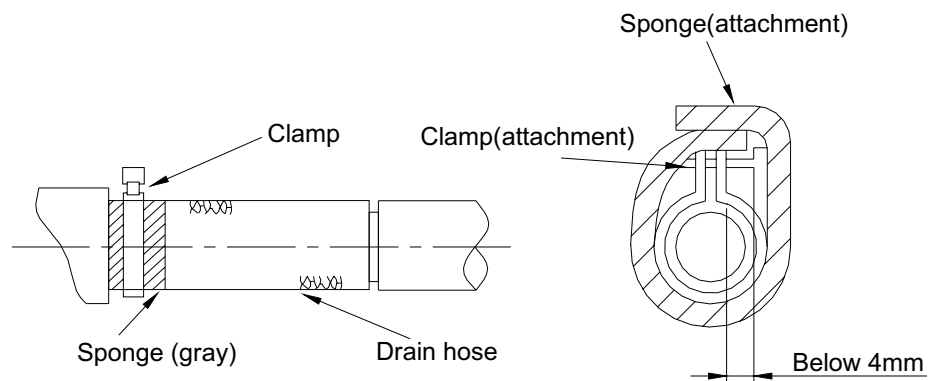

Fig.1.1.9
- ◆ Use the general-purpose hard PVC pipes which are purchased locally as the drainage pipeline. When carrying out connection, place the end of the PVC pipeline into the drainage hole. Use flexible drainage tube and tighten it with thread loop. Never use adhesive to connect the drainage hole and the flexible drainage tube. (As shown in Fig.1.1.9)